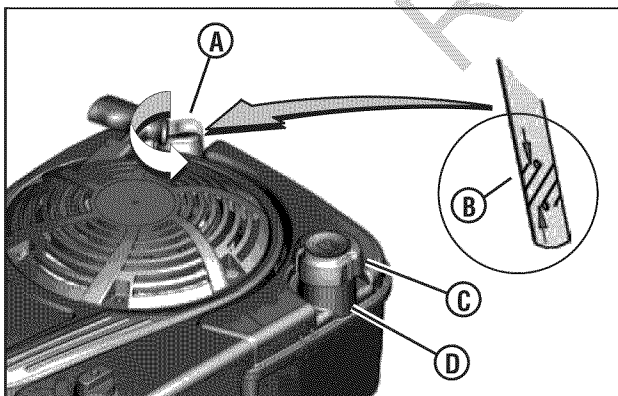

Figure 2: Oil and fuel fill
- Remove the dipstick (**A, Figure 2**) and wipe with a clean cloth.
- Remove the fuel fill cap (**C, Figure 2**).